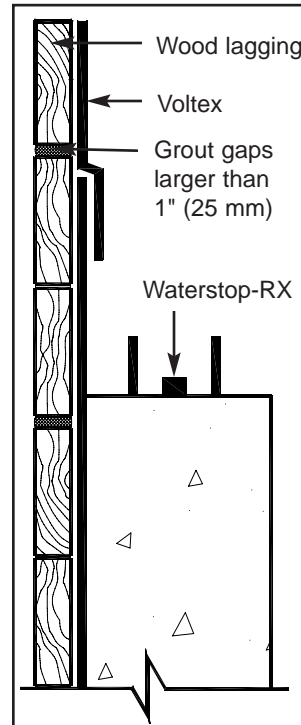

Figure 2.7 Voltex installed directly to wood lagging with gaps filled. (Cast-in-place concrete wall)
**Preparation:** Gaps between the wood lagging must be no wider than 1" (25 mm). If the gaps between lagging are in excess of 1" (25 mm), the gaps should be completely filled with cementitious grout, wood, extruded polystyrene (40 psi min.) or compacted soil (Figure 2.7). If water is flowing through the lagging, a 6-mil (0.15 mm) polyethylene sheeting can be installed over the area before Voltex is installed.